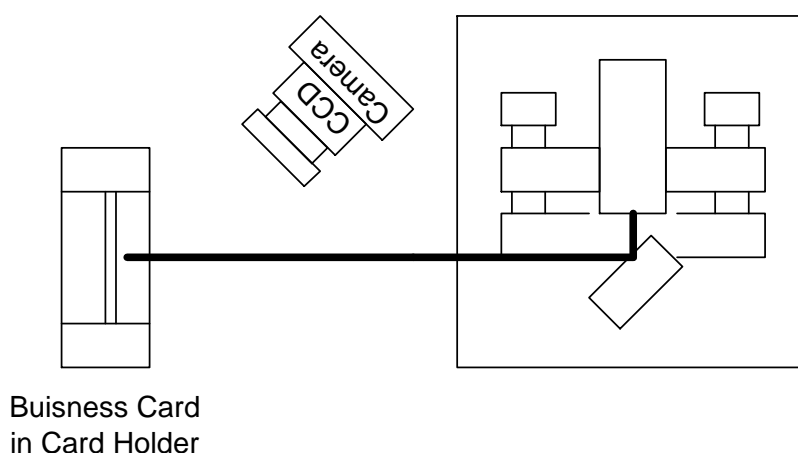

Figure 1. External Cavity Alignment
- Place a business card in the Neutral Density Filter holder and locate it so that it intercepts the laser beam see Figure 1. Focus the TV camera on the card. Dim the room lights and turn the laser current to zero. Now increase the current while watching the TV monitor. You will see a light spot that becomes slightly brighter as you increase the current. Your diode laser is below threshold, it is not lasing, but only acting as an LED. As you continue to increase the current you will observe a sudden brightening of the beam spot and the appearance of a speckle pattern characteristic of lasing.